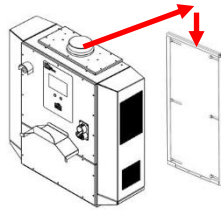

Figure 17.1
2. Hang charger with brackets attached onto wall-mounted Hanging bracket: Use lifting partner(s), handholds, and weight belt(s) as needed to safety lift 208 lb. unloaded charger and hook charger's attached Enclosure bracket over top of Hanging bracket (Figure 17.1).